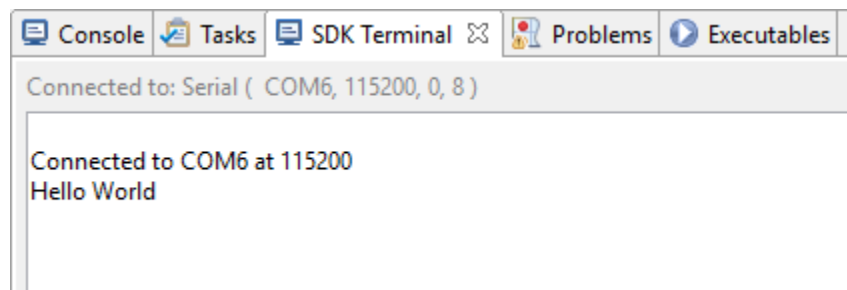

Figure 37: Terminal output.
3. If everything worked correctly, you should see “Hello World” printed in the terminal. (Figure 37)